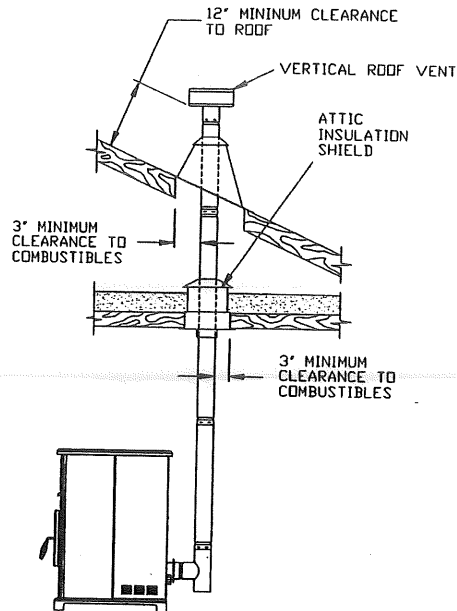

FIGURE 6
B. VERTICALLY WITH NEW CHIMNEY SYSTEM (Refer to Figure 6)